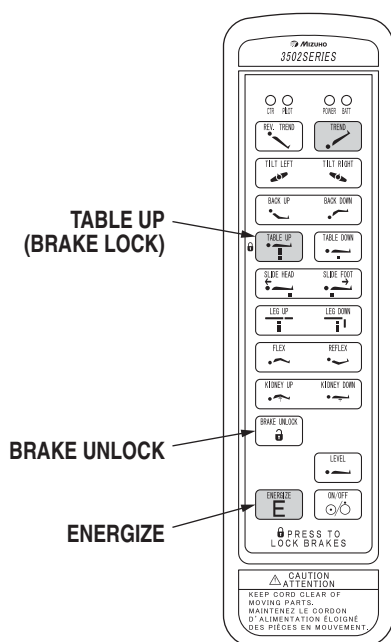

Figure 2-7. Brake System Activation
a. Floor Lock/Brake System To activate the brakes without affecting table positioning, press the ENERGIZE button and then the TABLE UP button. See figure 2-7. The elevation cylinder will not function until the brakes are completely extended.
Press the ENERGIZE button and then the BRAKE UNLOCK button on the pendant control to release the four self-leveling brake feet in order to move the table. See figure 2-7. The brake delay circuit automatically retracts the brake system. It takes approximately 7-8 seconds to totally release the system.